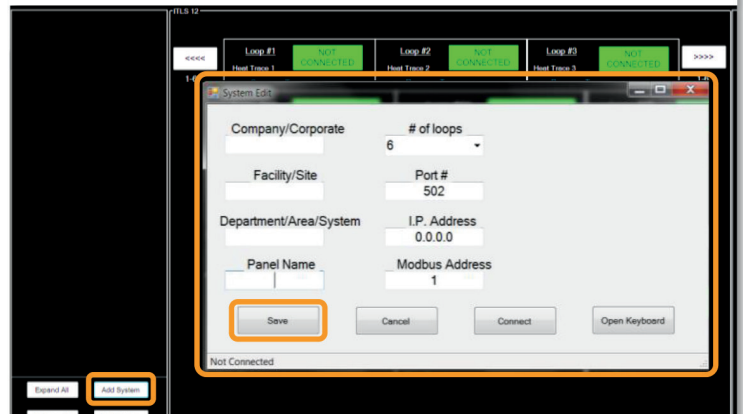

Figure 4
See Figure 4.
3. The **I.P. Address** and the **Modbus Address** must match what was recorded from the respective Panel **COMMS** Page in **Figure 4**.